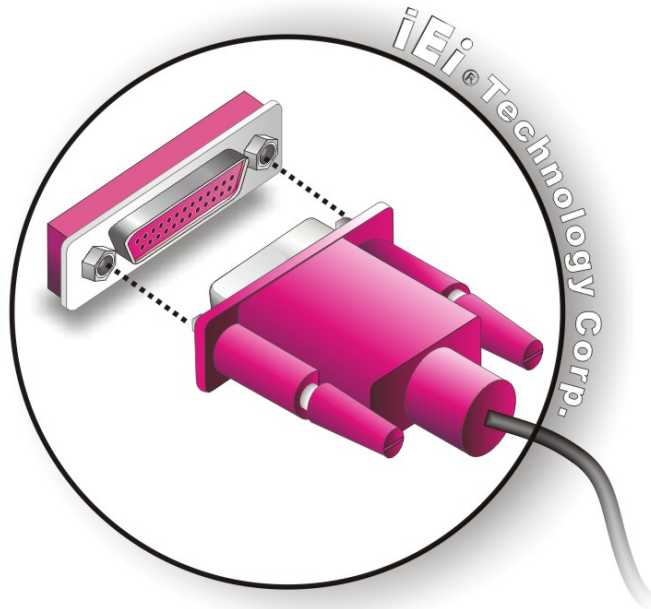

Figure 4-17: Parallel Device Connector
Step 2: Insert the DB-25 connector. Insert the DB-25 connector of a parallel device into the DB-25 connector on the external peripheral interface. See Figure 4-17.